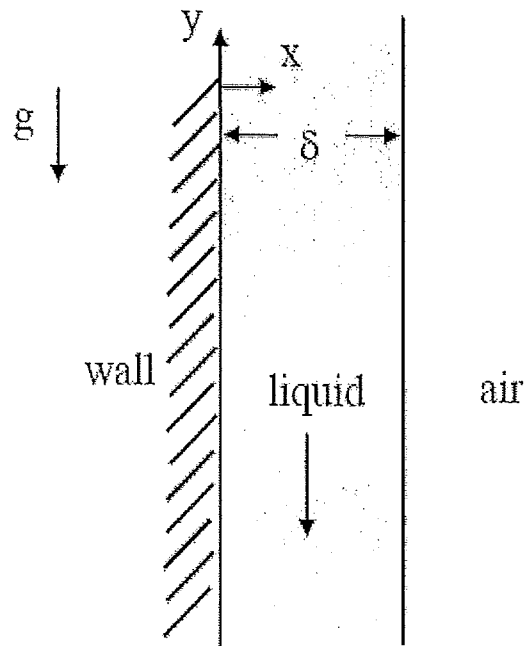

Figure 4 - A Newtonian liquid flows down a vertical wall
- [b] A viscous, incompressible, Newtonian liquid flows in steady and laminar planar flow down a vertical wall (Figure 4). The thickness, δ , of the liquid film remains constant. Since the liquid free surface is exposed to atmospheric pressure, there is no pressure gradient in the liquid film. Furthermore, the air provides a negligible resistance to the motion of the fluid.